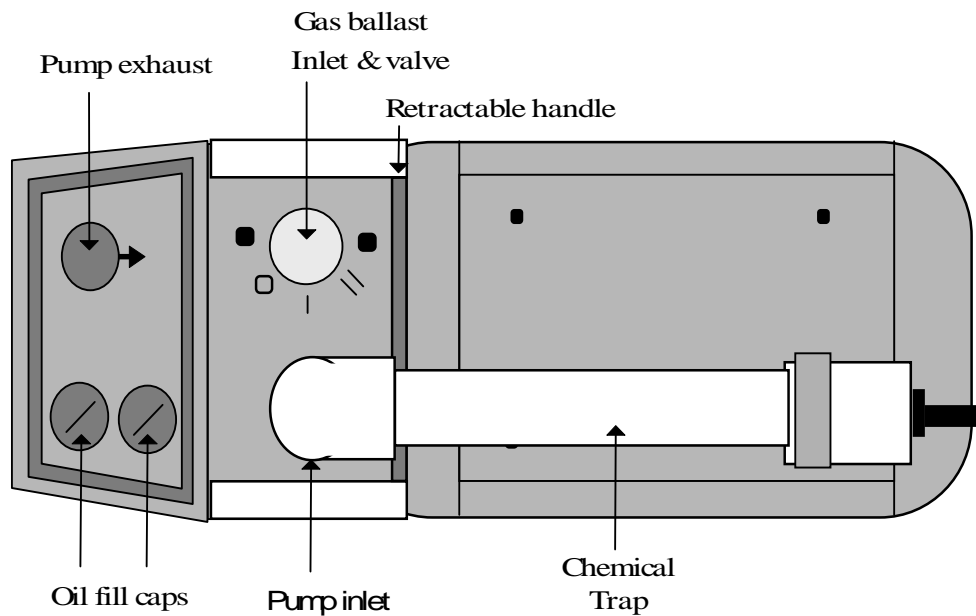

Figure 13 RV5 Oil- Sealed Vacuum Pump and Associated Traps (Top)
- 3 Install the metal conical screen and black centering o-ring into the pump inlet port (see Figure 13).
- 14 Remove the plastic protective cover from the pump exhaust port. Place the centering o-ring on the pump exhaust port (see Figure 13).